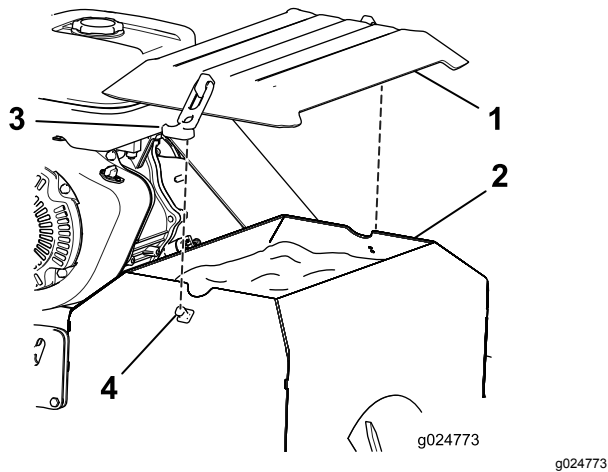

Figure 11
- To install the seed cover (Figure 11), place it over the seed hopper and fasten it to the latch posts on either side using the rubber latches.